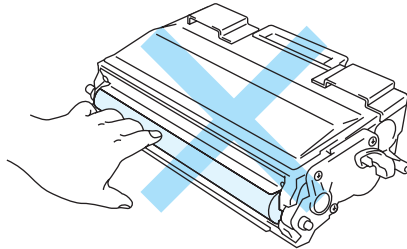

Figure 6-12
- Do not touch the shaded parts shown in Figure 6-12 and 6-13 to avoid any degradation to the print quality.